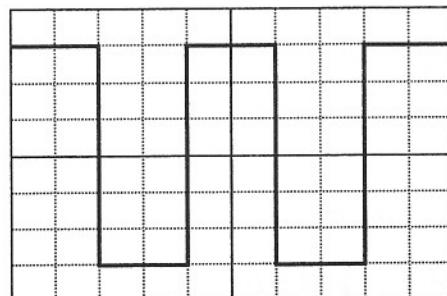

Figure 1
- c). Adjust VR108 until amplitude at 6. Div. (see fig 1)